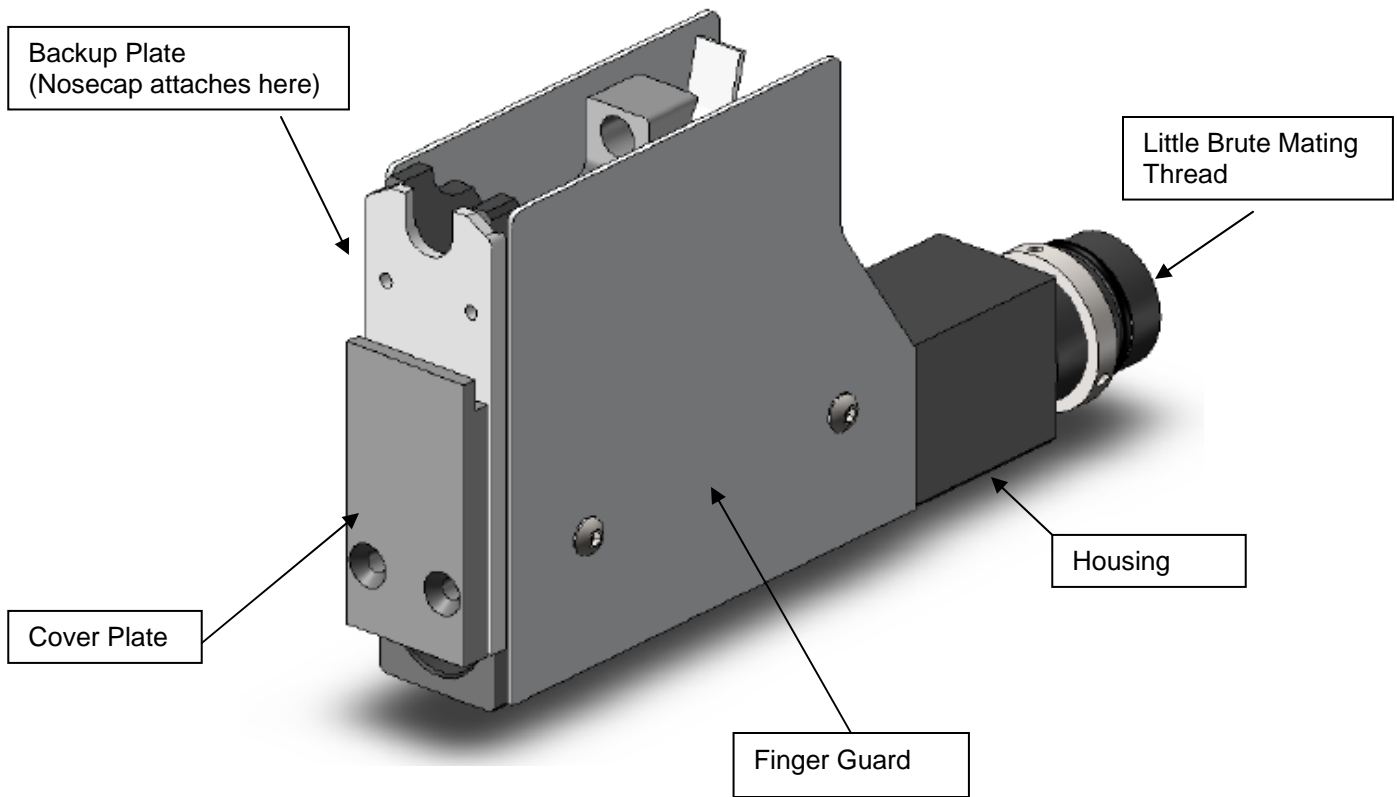

Figure 1-1
There are two variants of the Little Brute Offset Adapter. See Figures 1-1 and 1-2:
1. Little Brute Offset Adapter with Finger Guard (shown in Figure 1-1). These are available by adding –G to the end of the LBOA-xx model number. **These units provide safety improvements that comply with the European Council's Machinery Directive 2006/42/EC.**